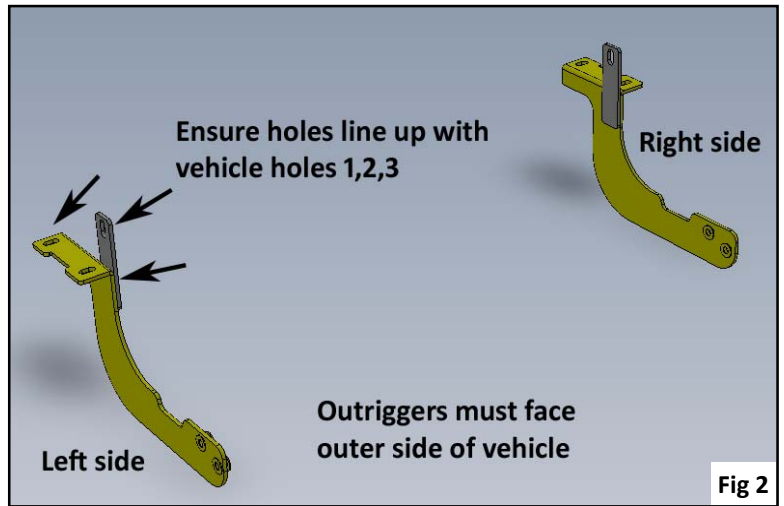

Fig 2
2. The step outriggers come in pairs (left & right). When mounting ensure they are positioned correctly underneath vehicle. The holes on the outriggers must line up with mounting holes on vehicle (**Fig 2**).